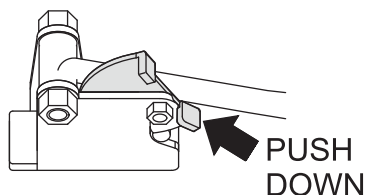
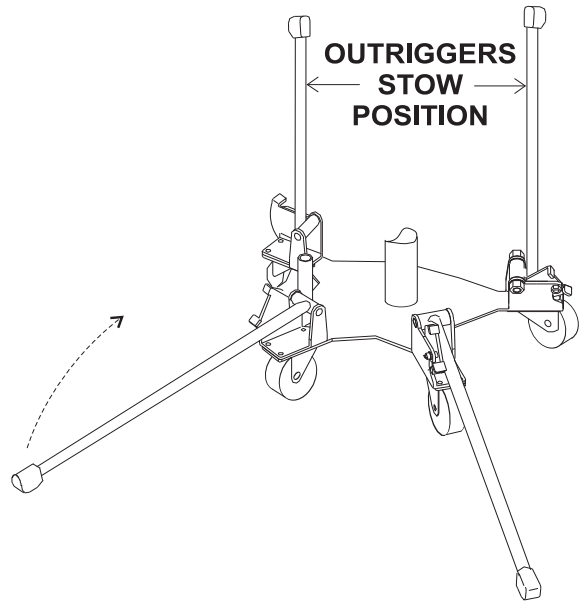
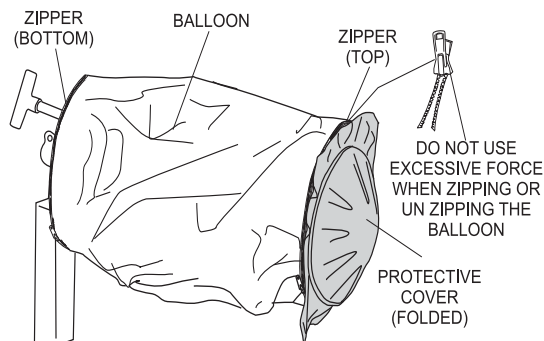
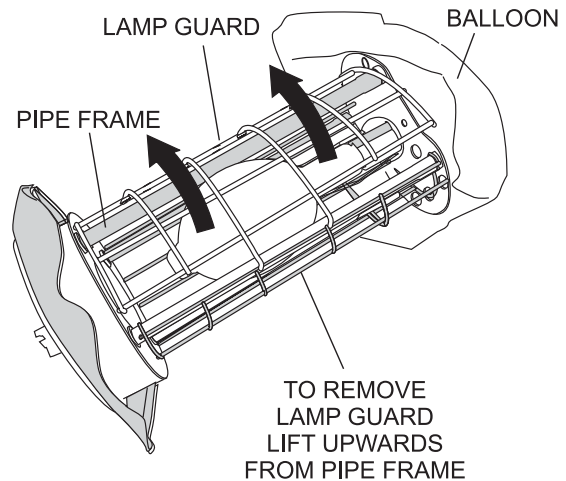

Figure 19. Outriggers (Released)
Figure 20. Outriggers (Stow Position)
Figure 23. Exposing the Balloon
Figure 24. Removing the Lamp Guard
7. To unlock outriggers, push downward on the counterweight lever indicated by arrow (Figure 19). Grab hold of outrigger, pull upward, and place in stow position (Figure 20).
1. Expose the balloon (Figure 23) by pulling down on the velcro tabs and unzip the protective cover as shown in Figure 19. Next, fold the protective cover into itself and zip.
2. Unzip the zipper (Figure 23) at the bottom of the balloon and roll the balloon envelope upwards to expose the lamp (Figure 24). Remove the lamp guard to gain access to the lamp. **DO NOT** use excessive force when unzipping the balloon.
2. Zip up the zipper at the bottom (Figure 24) of the balloon and pull down the balloon envelope to cover the lamp